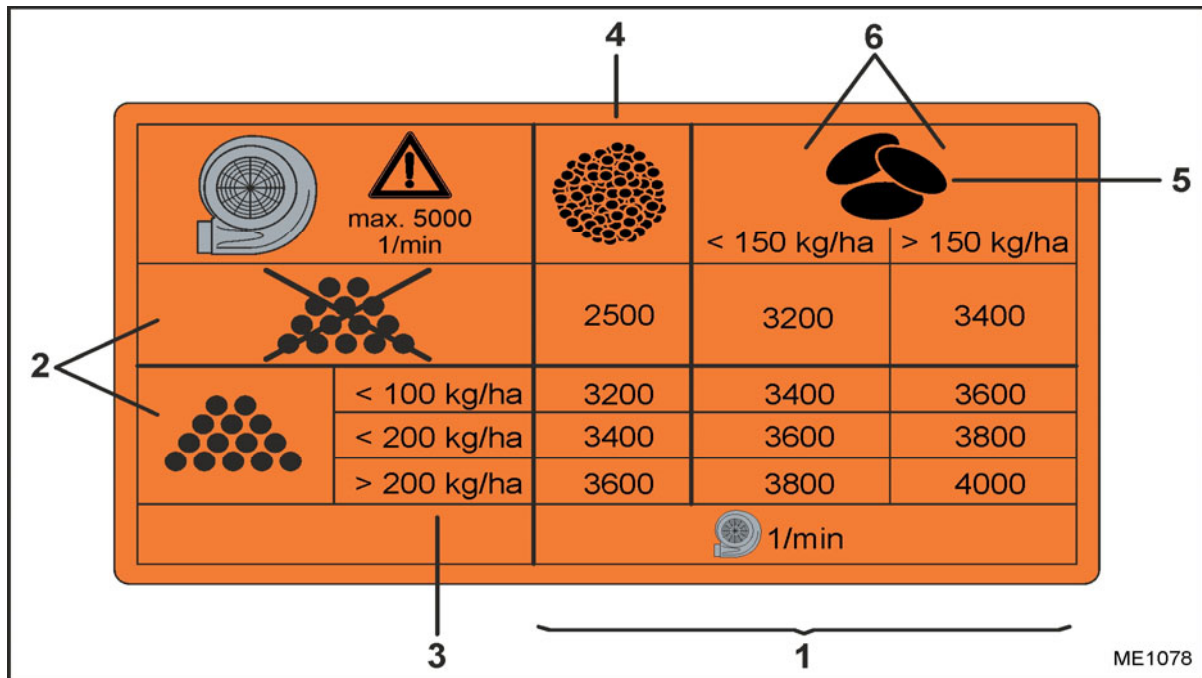

Fig. 167
The fan speed (Fig. 167/1) required depends on:
- with or without fertiliser (Fig. 167/2)
- from the fertiliser application rate (Fig. 167/3)
- fine seed types (Fig. 167/4), e.g. rapeseed or grass seed
- grains or legumes (Fig. 167/5) and the spread rate (Fig. 167/6).
- fertiliser application rate: 150 kg/ha (Fig. 167/3)
- grain spread rate: 130 kg/ha (Fig. 167/6)